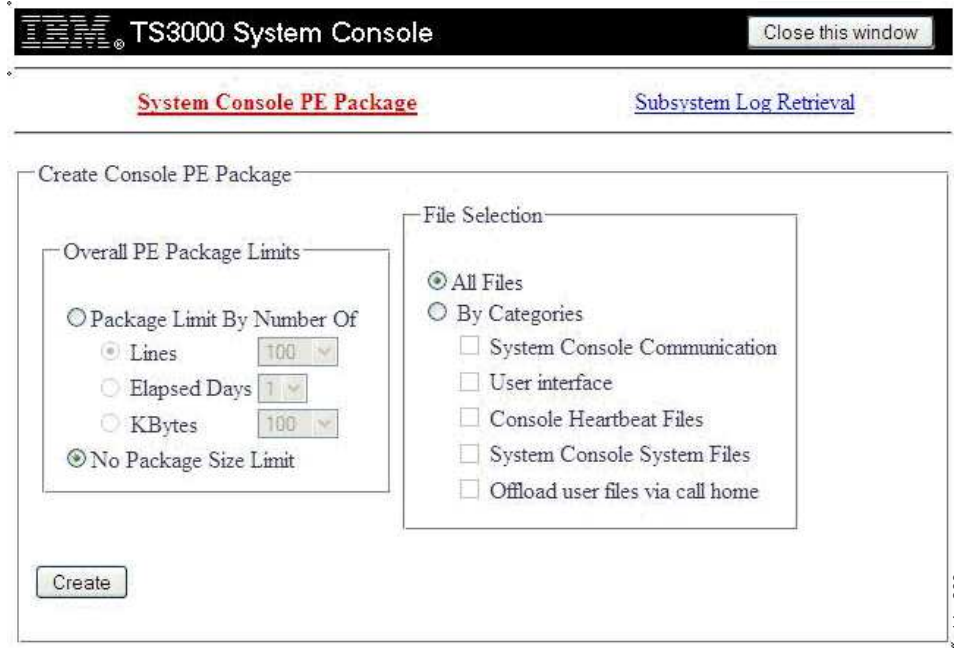

Figure 212. Create Console PE Package Menu
4. Click the **PE Packages** icon. You see Figure 212 on page 169.